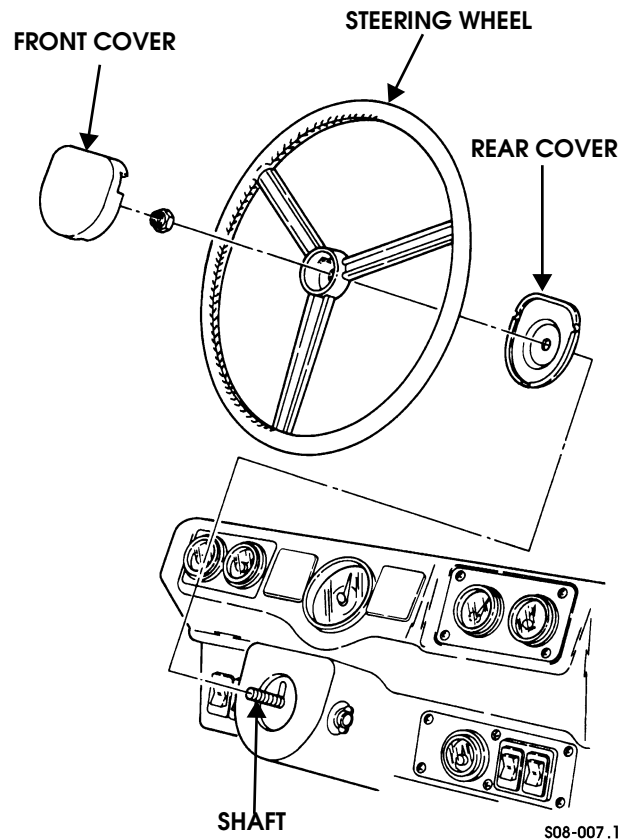

Figure 8-10: Steering Wheel Removal
1. Gain access to nut by removing three screws that hold front cover to rear cover (Figure 8-10).